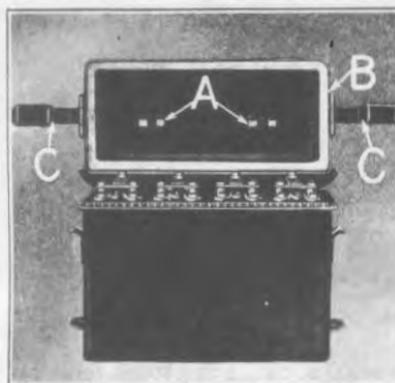
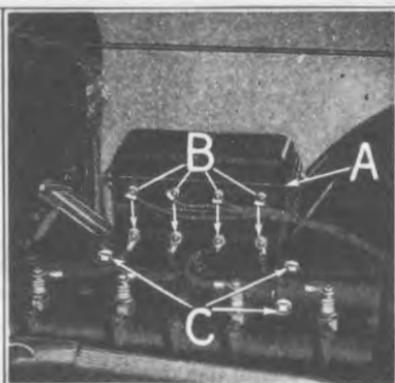

Fig. 545
Fig. 546
- 1195** The hold down springs which are riveted to the inside of the cover (see "A" Fig. 545) hold the coils tightly against the box contacts, insuring perfect contact at all times. By means of a special composition gasket (see "B" Fig. 545) and two heavy type spring latches "C" which are hinged to the coil box cover, a dust and waterproof joint is formed between cover and box. A trough (see "A" Fig. 546) which has been made an integral part of the cover prevents any water reaching the terminals on the back of the coil box.
- 1196** To remove the new type coil box: run off the nuts on the ends of the eight coil box terminal posts (see "B" Fig. 546) and lift off commutator loom and spark plug wires.
- 1198** Run out the three cylinder head bolts which hold coil box to cylinder head (see "C" Fig. 546), coil box can then be removed.